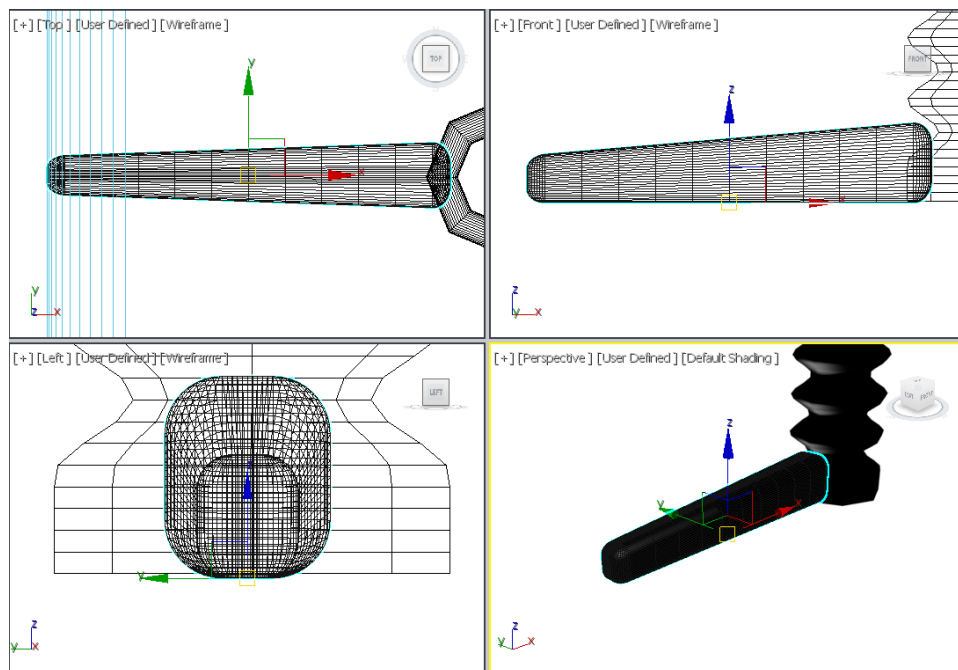

Figure 3-40 The leg01 geometry displayed in viewports after applying the **Taper** modifier
10. After entering the values, *leg01* is tapered, as shown in Figure 3-40.